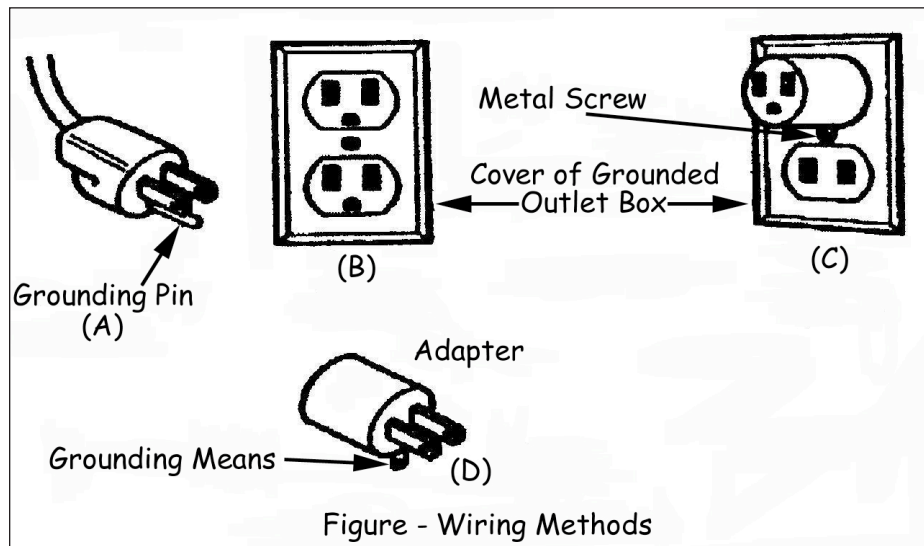

Fig. 1
1. Tools with three wire grounding plugs (Fig. 1, A) are intended for use on a circuit that has an outlet that looks like the one illustrated (Fig. 1, B).
2. A temporary adapter (Fig. 1, B & C) may be used to connect this plug to a 2-pole receptacle (Fig. 1, B) if a properly grounded outlet is not available.
4. The green colored rigid ear, lug, etc. extending from the adapter must be connected to a permanent ground such as a properly grounded outlet box (Fig. 1, D).